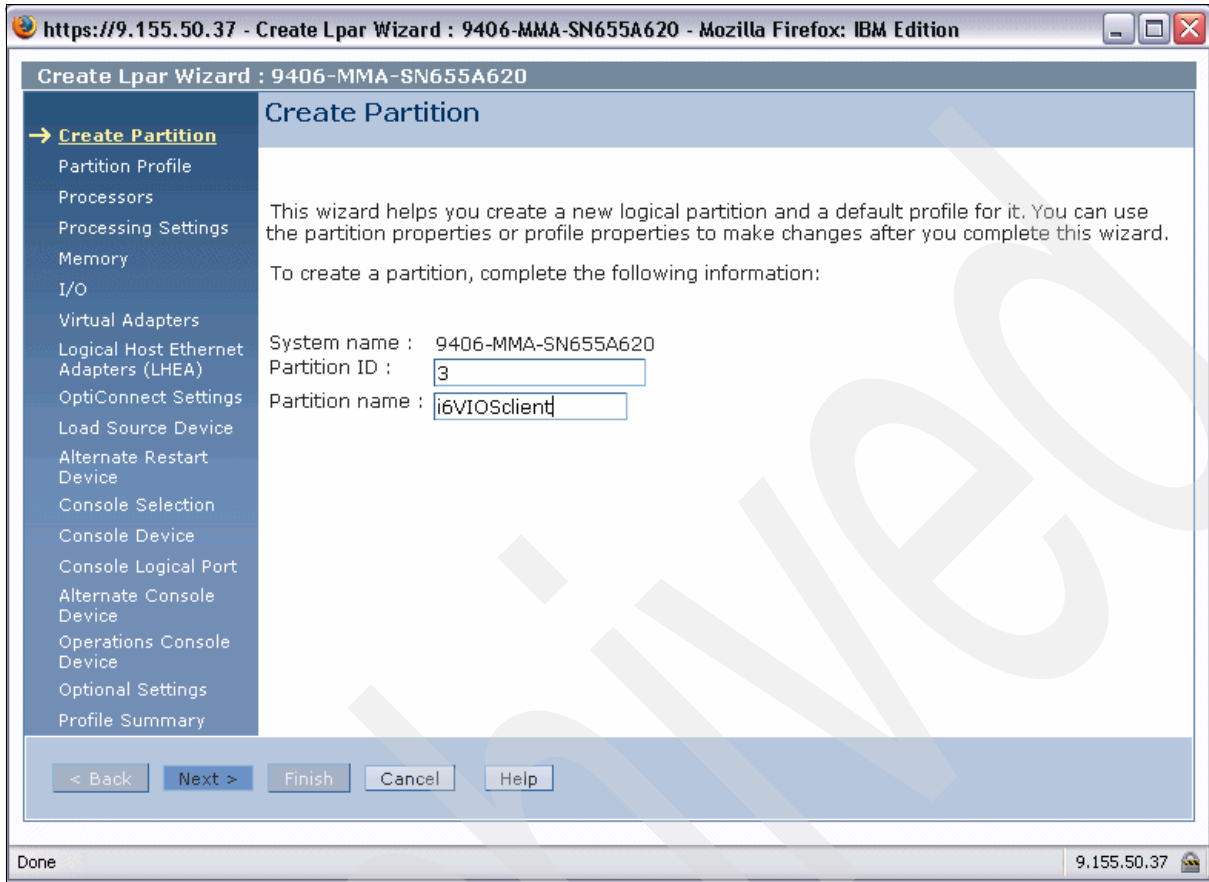

Figure 6-22 Create LPAR Create Partition dialog
2. We enter an unused partition ID and partition name and click **Next** to proceed, as shown in Figure 6-22.